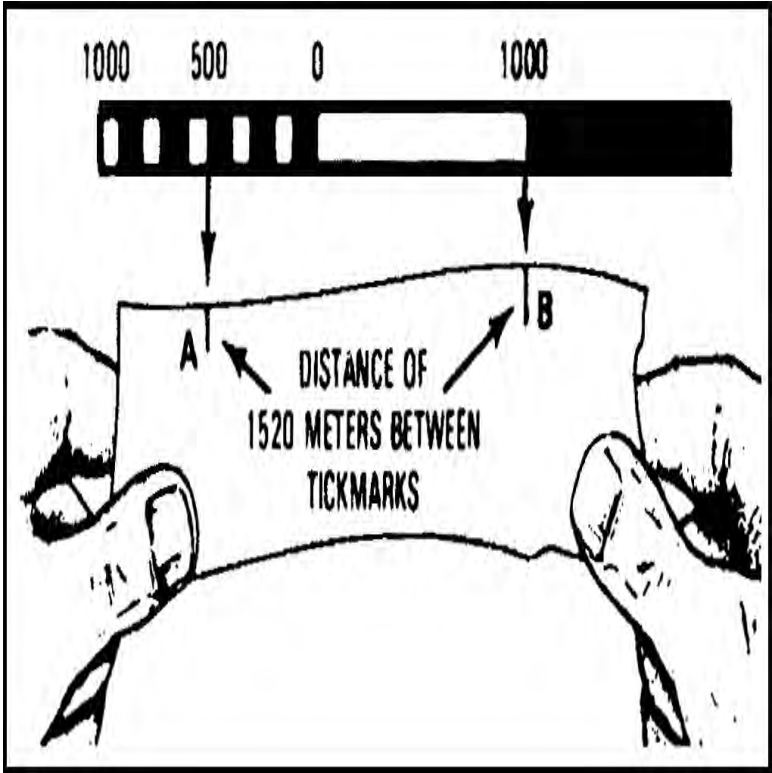

Figure 071-COM-1008-2. Distance between Beginning and Ending Points.
- d. Align the marks on the paper with the appropriate bar scale (Figure 071-COM-1008-2).